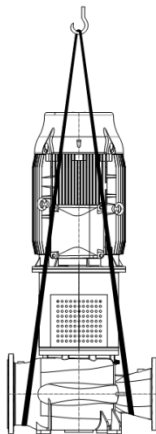

Figure 3: Transport of Pump Group
In order to make the alignment of the coupling, it is required to have at least two pieces of about 10 cm tall, smooth-edged metal parts (e.g. a steel ruler or a gauge stick) and one precision calipers. (Figure 3) (For more precision alignments, special apparatus can be used).
- Install the pump on the concrete base as illustrated in Figure 3.